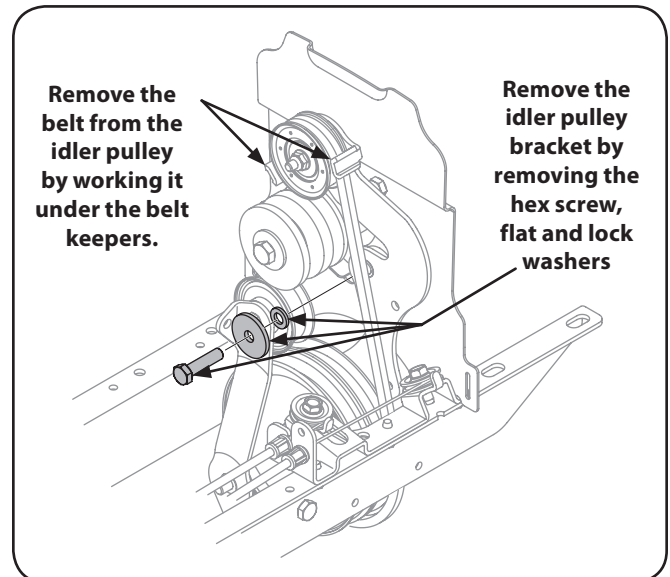

Figure 7-4
5. Remove the idler pulley bracket by removing the 5/16-24 hex screw, flat washer and lock washer, as in Fig. 7-4.